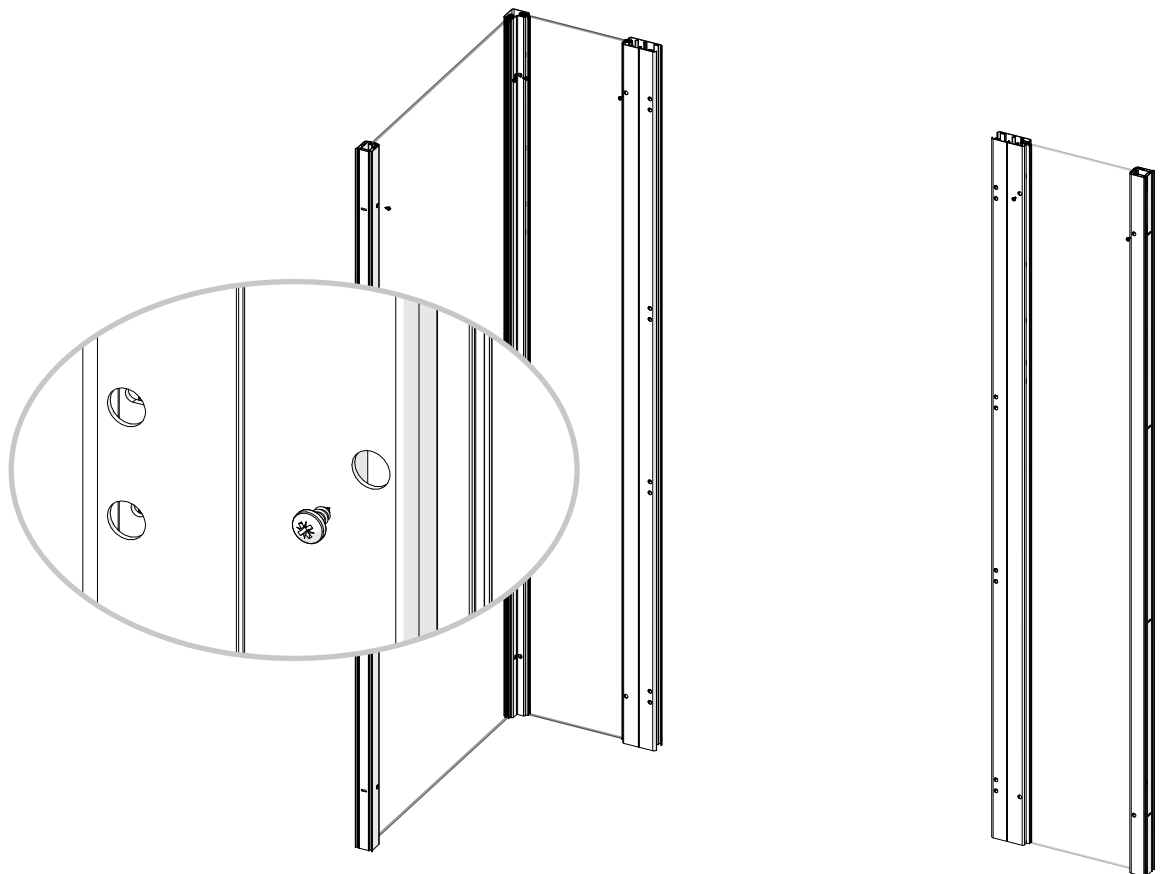

Fig. 4.3
- V. Fix the panel(s) in place using 4.2 x 9.5 mm pan head screws. *Figure 4.3*